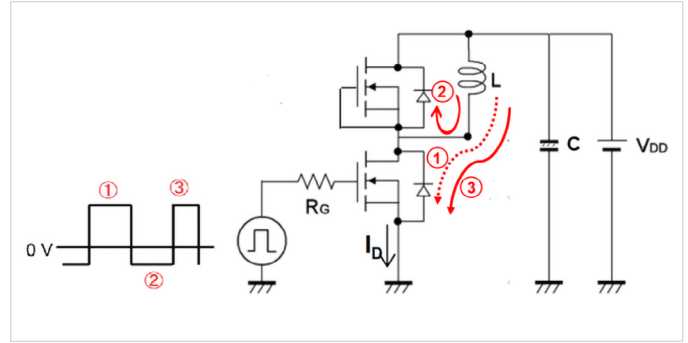
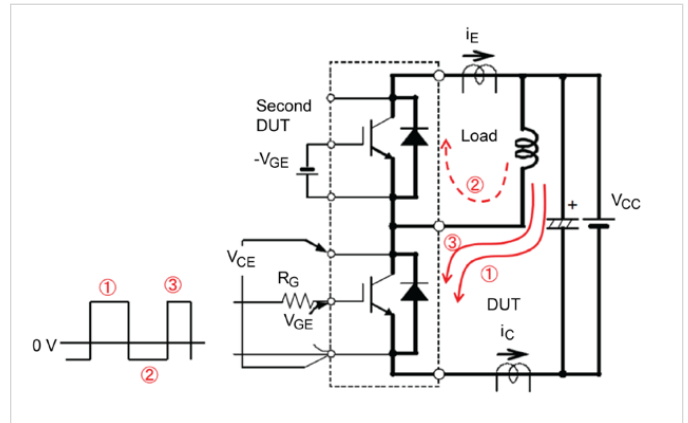
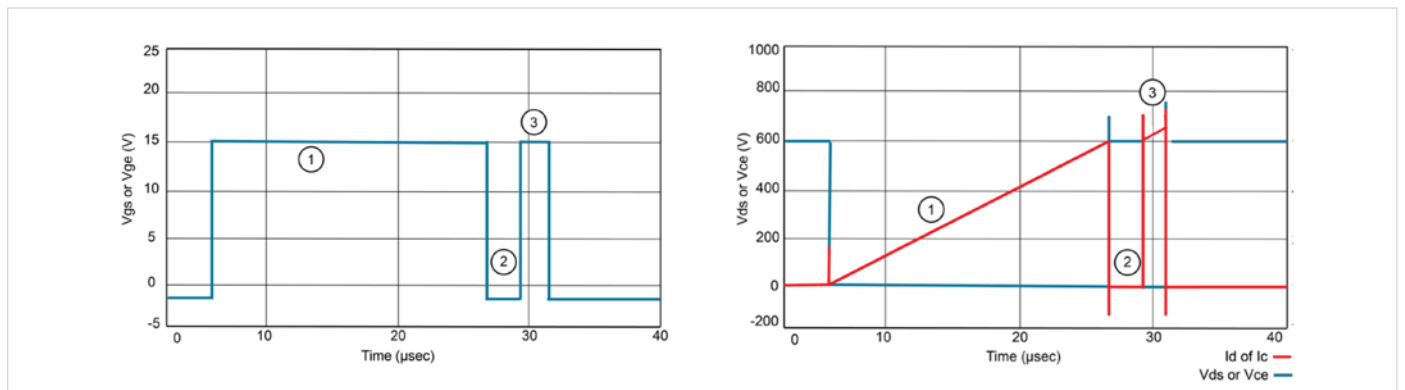
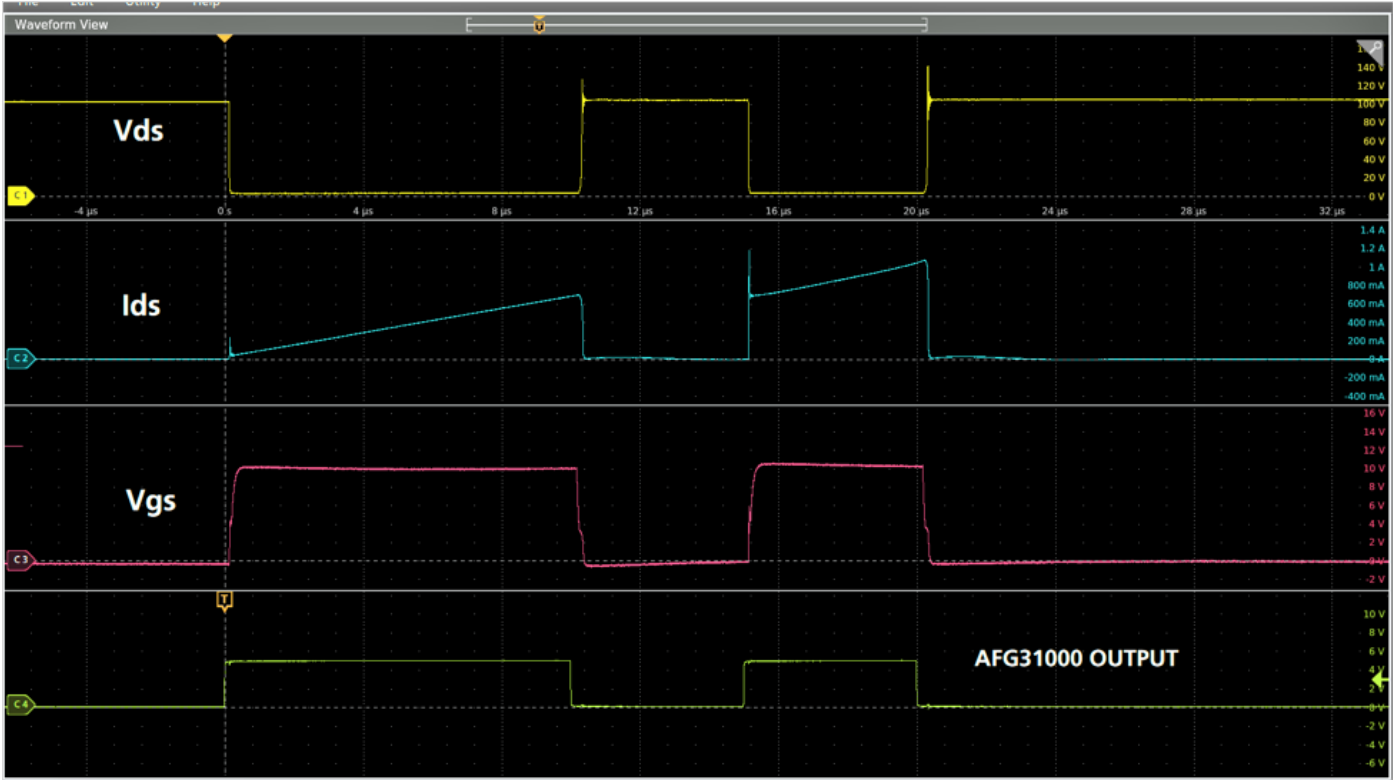

Figure 6: Current Flow with MOSFETs as DUTs.
Figure 7: Current Flow using IGBTs as DUTs.
Figure 8: Typical Waveforms of the Double Pulse Test.
Figure 16: Double Pulse Test waveforms.
Figure 6 shows the current flow within the different stages of the test for a Double Pulse Test with MOSFETs. The same current flow would apply when using IGBTs as shown in **Figure 7**.
Figure 8 shows typical measurements taken on the low side MOSFET or IGBT. Here are the different stages of the Double Pulse Test (These stages refer to **Figures 6, 7 and 8**)
- The first step, represented by turn-on pulse number 1, is the initial adjusted pulse width. This establishes current in the inductor. This pulse is adjusted to get to the desired test current (I_D) as shown in **Figure 8**.
- The second step (2) is to turn-off the first pulse, which creates current in the free-wheeling diode. The turn-off period is short to keep the load current as close as possible to a constant value through the inductor. **Figure 8** shows I_D on the low side MOSFET that goes to zero in step 2; however, the current is flowing through the inductor and the high side diode. This could be seen in **Figures 6 and 7**, as the current flows through the diode of the high side MOSFET (the MOSFET that doesn't get turned on).
- The third step (3) is represented by the second turn-on pulse. The pulse width is shorter than the first pulse so that the device is not overheated. The second pulse needs to be long enough for the measurements to be taken. The current overshoot seen in **Figure 8** is due to the reverse recovery of the free-wheeling diode from the high side MOSFET/IGBT.
Notice the waveforms in **Figure 16** resemble the ones shown in **Figure 8**. Again, the current overshoot seen on I_{ds} is due to reverse recovery of the free-wheeling diode from the high side MOSFET/IGBT. This spike is intrinsic to the device being used and will contribute to the losses.